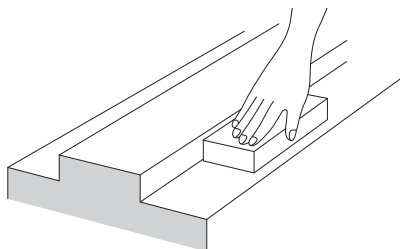

Fig. 21
- (1) Use an oilstone to remove burrs or knots from the LM rail mounting surface on the base. (Fig. 21)